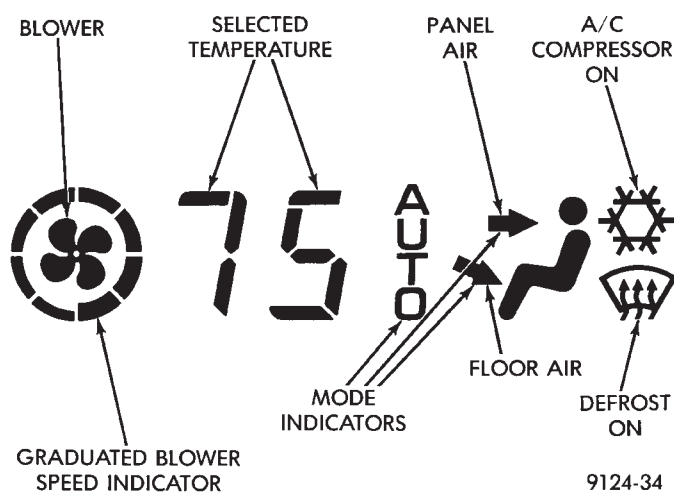

Fig. 2 Automatic Temperature Control Panel Display Symbols
- With the A/C compressor turned on (snowflake illuminated) (Fig. 2).